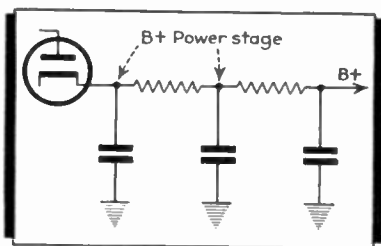

Fig. 3. A typical present day midget receiver employs a one or two section resistance-capacity filter.
Fig. 3—Mechanical telephone dial type. Crank pin on each button is adjusted to stop dial and condenser at correct position when housing is turned. Tune station manually and set top button pin to vertical center line. Set button forward or backward one tooth at a time until station is tuned sharply.
The diagram of Fig. 3 shows a cut-away view of this mechanism. The
4. Carefully rotate the thin notched plate after slightly loosening the face nut, until the notch is in line with the button to be adjusted. Hold each button with your finger as the disc is moved by, or the button will spring out and lose its setting. 5. Manually tune the station to be set-up. The button being set-up will be near the top of the housing. 6. Insert button so that the tip of the crank-pin is in line with the center of the metal vane. This is approximately the same as the joint in the cabinet veneer. The large notch in the rim of the button locates the tip of the pin. See Fig. 3. The station must remain perfectly tuned during this operation. 7. Move the notched plate slightly to hold the button just set. 8. Check the set-up by dialing the station in both the clock-
ity electrolytics. A typical present-day midget set has a filter about like that in Fig. 3. More sections are often used to isolate an r-f, i-f or audio stage from other stages and, in this case, they are sometimes called decoupling filters as they prevent coupling by a common impedance (usually the last filter condenser) in the plate supply. In high gain amplifiers